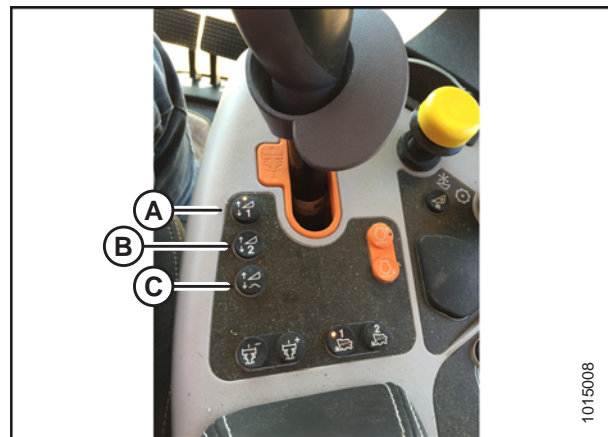

Figure 4.131: New Holland Combine Controls
5. Select one of auto height set point buttons shown in Figure 4.131, page 156.